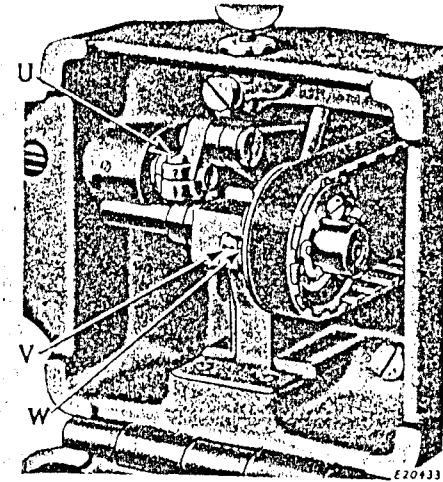

Fig. 23. Showing Timing Marks on Plate and Pulley
If the feed dog strikes the throat plate, tip the machine back and loosen the pinch screw (U, Fig. 23) of the feed driving rock shaft crank at the end of the rock shaft, then set the feed dog so that it will not strike when the longest stitch is made, and retighten the pinch screw (U).
Owing to the fact that the sewing hook makes two revolutions to one revolution of the hook driving shaft, and that the feed lifting eccentric is on the hook driving shaft, it is possible to have the sewing hook correctly timed without having the feed correctly timed. To overcome this, the plate (V, Fig. 23) is attached to the underside of the bed of the machine. This plate is marked with an arrow at its forward end and directly alongside of the plate, the side of one of the teeth of the belt pulley is marked as shown at W in Fig. 23. When replacing the belt, replace the arm shaft bushing and securely fasten it in position by the screw (L, Fig. 3) at the back of the machine, replace the feed regulating spindle head and the balance wheel and place the belt on the upper pulley, then turn the balance wheel over toward you until the thread take-up lever is at its highest point. Then turn the hook driving shaft with the fingers until the arrow on the plate (V) and the timing mark on the belt pulley (W) are directly in line. Now, without disturbing either the arm shaft or the hook driving shaft, slip the belt over the lower pulley (Fig. 23). The feed will then be correctly timed with the needle bar.